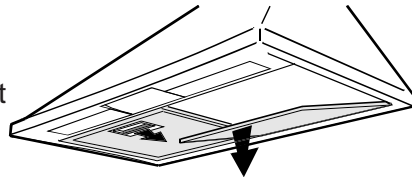

Fig. 4
- Push the filters towards the back of the unit and then pull it down and out. **Fig. 4.**